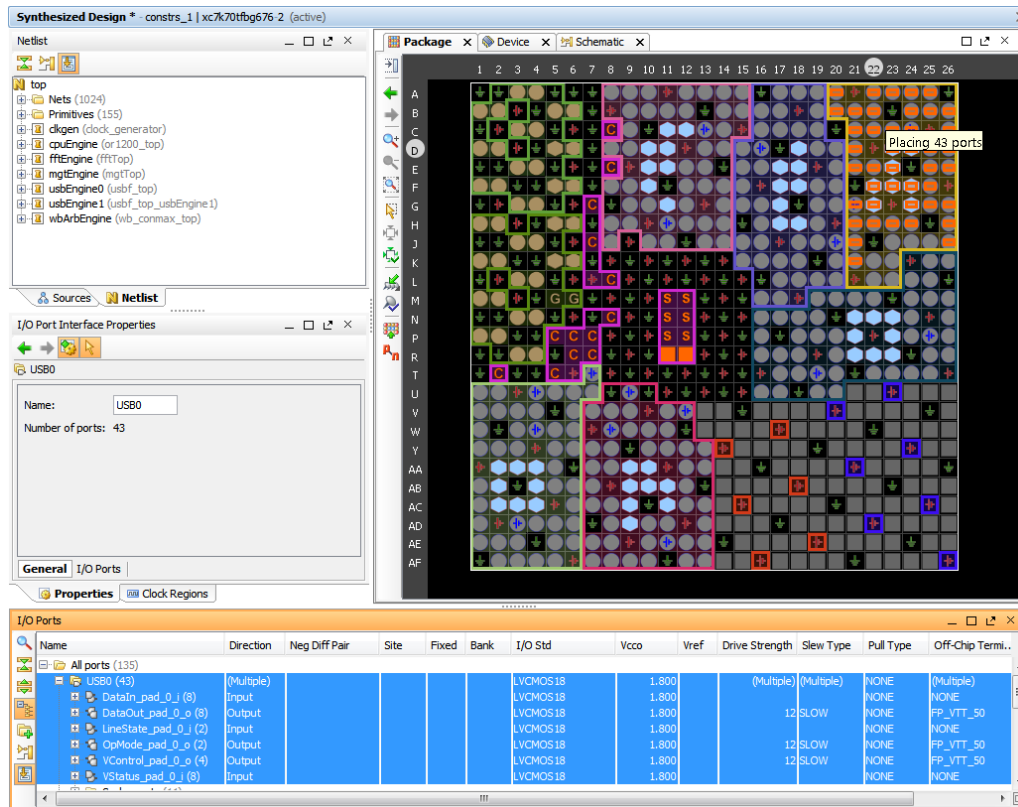

Figure 25: Placing I/O Ports into Package View
5. Drag the I/O ports onto **I/O Bank 14** on the top-right side of the Package view to place the I/O Ports as shown in Figure 25.